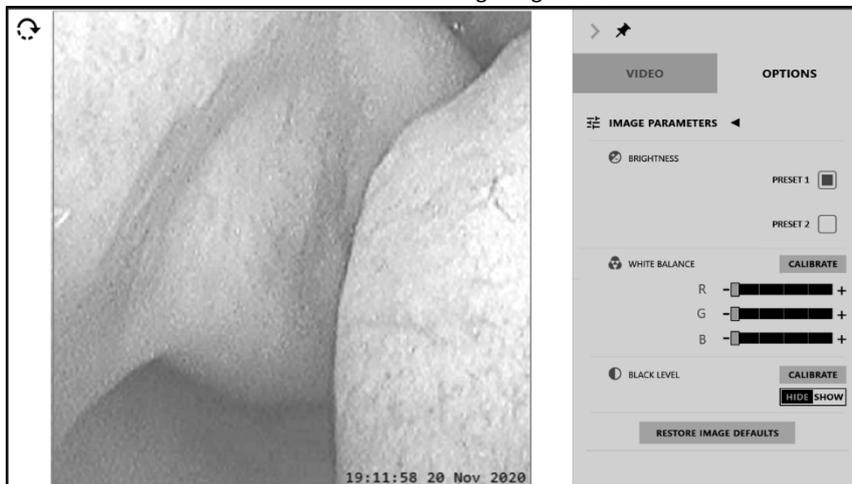

Figure 8 - IMAGE PARAMETERS Screen
- 2.1. IMAGE PARAMETERS menu enables the user to calibrate and adjust the image brightness and RGB gains (Figure 8).
- 2.5. In order to restore image parameters to default press RESTORE IMAGE DEFAULTS button (Figure 8).